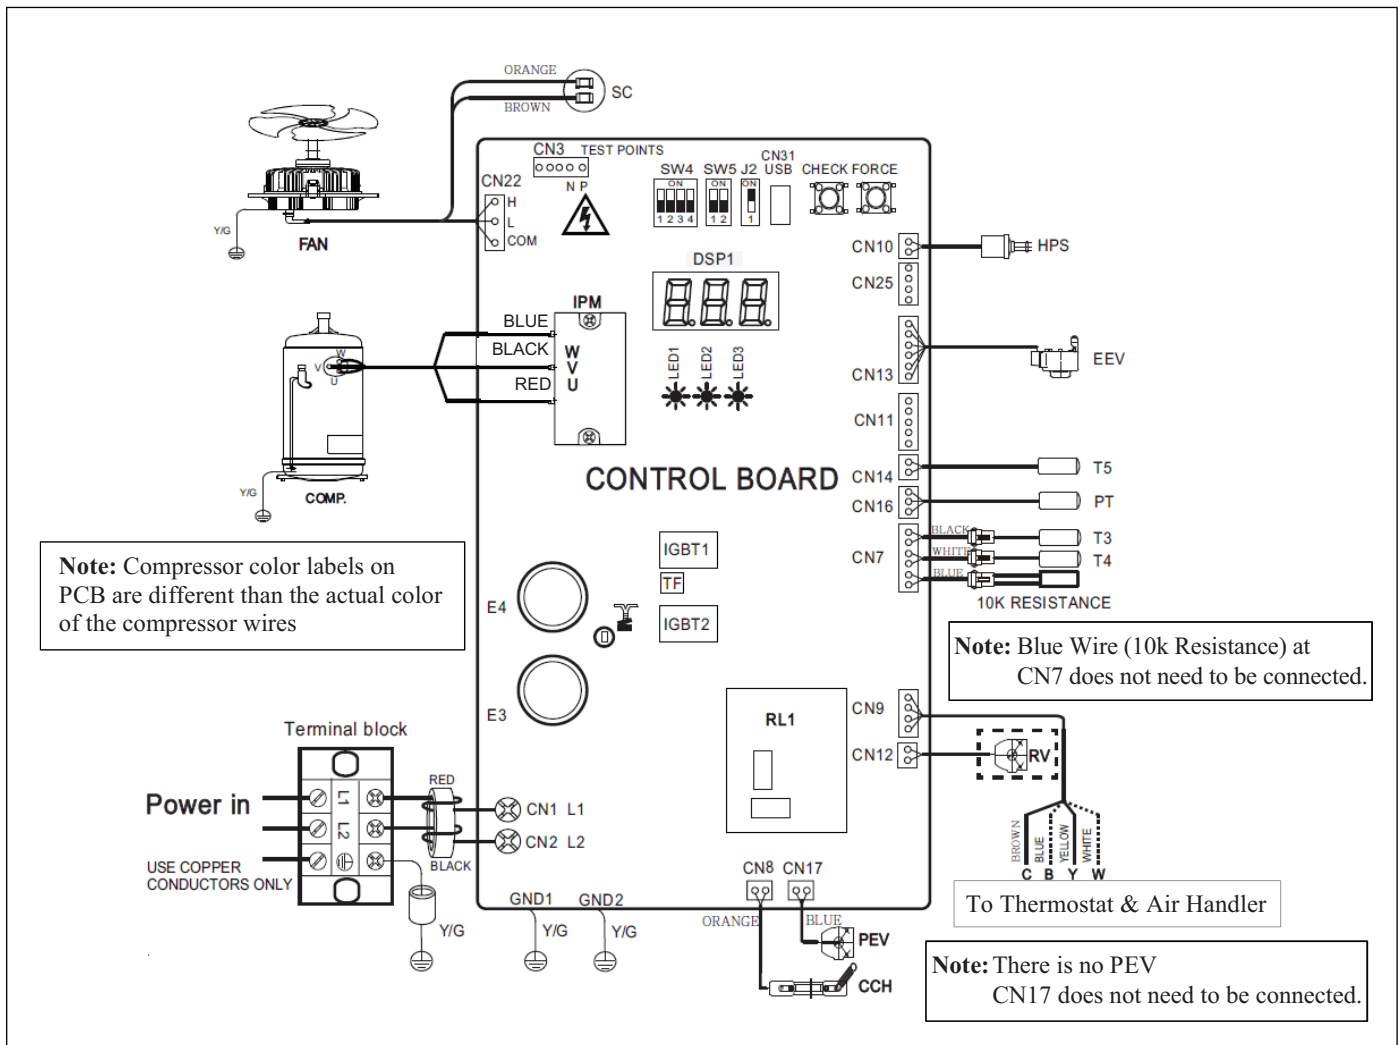

Figure 15 3T Control Board with All Wires Connected
20. Connect all wires according to the wiring diagram. See Figure 15.